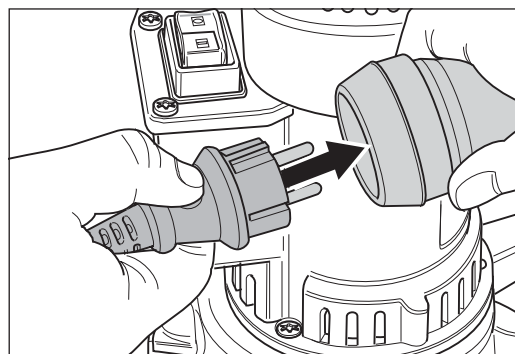

Fig. 7 Connect the motor cable to the extension cable.
- 1 Insert the plug of the motor cable in the coupler of the extension cable (fig. 7).